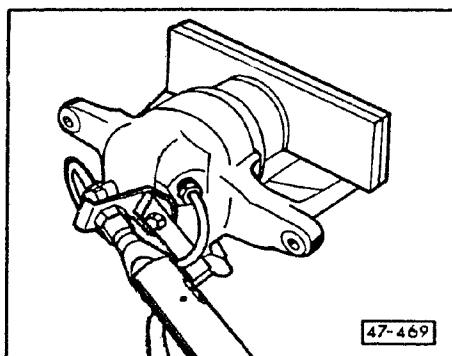

Fig. 1 Piston, removing
► Fig. 1 Piston, removing
► Fig. 1 Brake caliper pistons, removing